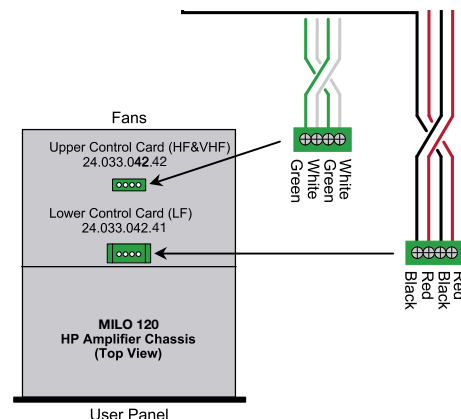

Figure A.4: MILO 120's two 4-pin connectors
3. Disconnect the two 4-pin loudspeaker connectors. Note that the harness with red and black wires goes to the connector closest to the user panel, while the harness with green and white cables goes to the connector closest to the fans (Figure A.4).